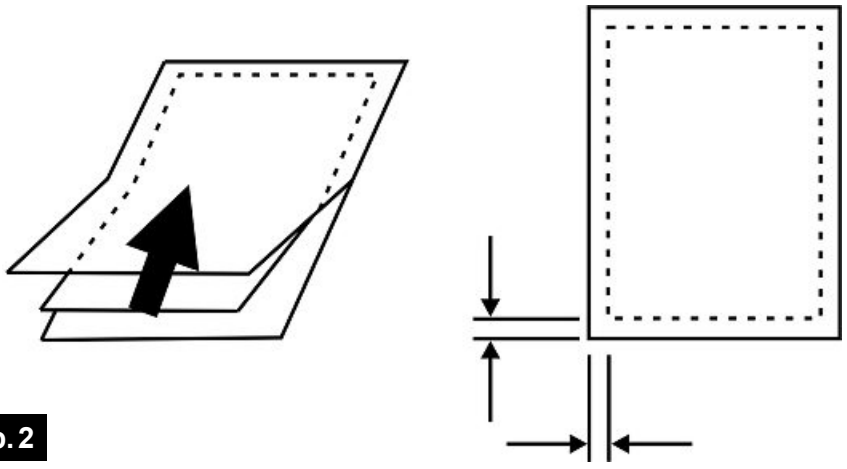

Abb. 2
- Laminating pouches of all sizes should be introduced into the centre of the opening on the front. Ensure that the sealed end is introduced first. (See Fig. 2)
- Wait until the Ready status LED (6) lights up solid red. The device is cool or is not heating up.
- Guide the pouch into the middle of the front opening (4) on the device. Ensure that the sealed end (see Fig. 2) is introduced first.
- The document is output again at the back (1).
- To interrupt the lamination process (e.g. if the intake angle is incorrect), press the roller unlocking button (2) and correct the position of the pouch.